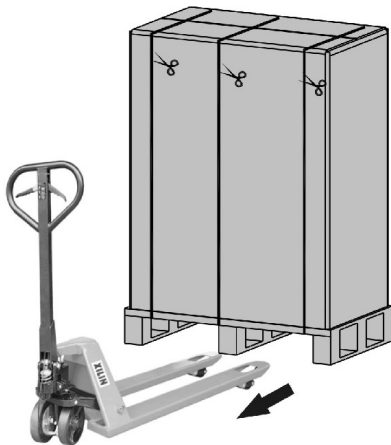

Fig. 24. Example of transfer of packed ADAPT X with pallet jack.
- Fig. 24 to 26 by way of example show illustrations corresponding to a 6-slot sub-rack.
- To unpack the device, cut the straps of the carton envelope and remove it as if it were a cover (see Fig.24 and 25) or disassemble it with the necessary tools if the casing is made of wood; remove the corners and the plastic sheath and the UPS will be naked on the pallet.